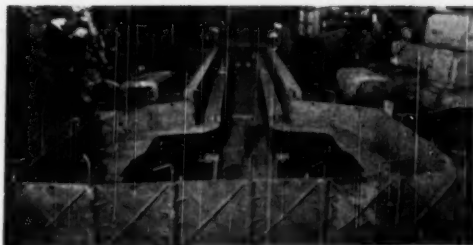

FIG. 14 CASTING MAIN GIRDERS OF A WELL WAGON
**Steel Castings in Wagon Construction—20-Ton Cast-Steel Well Wagons.** The Southern Railway put into service during 1944, eleven four-wheel 20-ton well wagons. The main members, i.e., solebars, headstocks, transom diagonals, etc., were of cast steel and electrically welded together. The construction of wagons in this manner was unique to Great Britain, and it was necessary to collaborate with the steel manufacturer, The English Steel Corporation, in regard to their production, owing to the length and light character of the castings. The main girders are 32 ft long, are of hollow-box design, and were cast in pairs on a specially leveled concrete floor. The foundry work involved in this matter is illustrated in Fig. 14. The time taken for pouring a pair of castings was 62 sec. The time in the sand was 60 hr. On completion of the casting process it